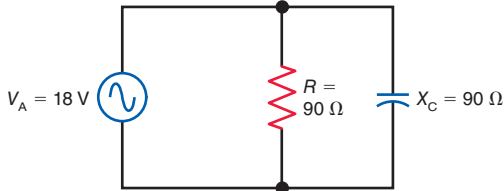

Figure 17-17
- 17.18** In Fig. 17-17, solve for I_R , I_C , I_T , Z_{EQ} , and θ_I .